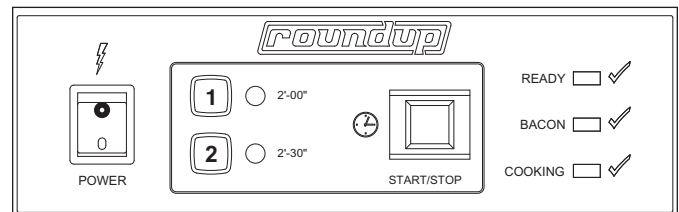

Figure 2. Operating Controls
1. Turn the Rocker Switch (power On/Off) to ON (Figure 2).